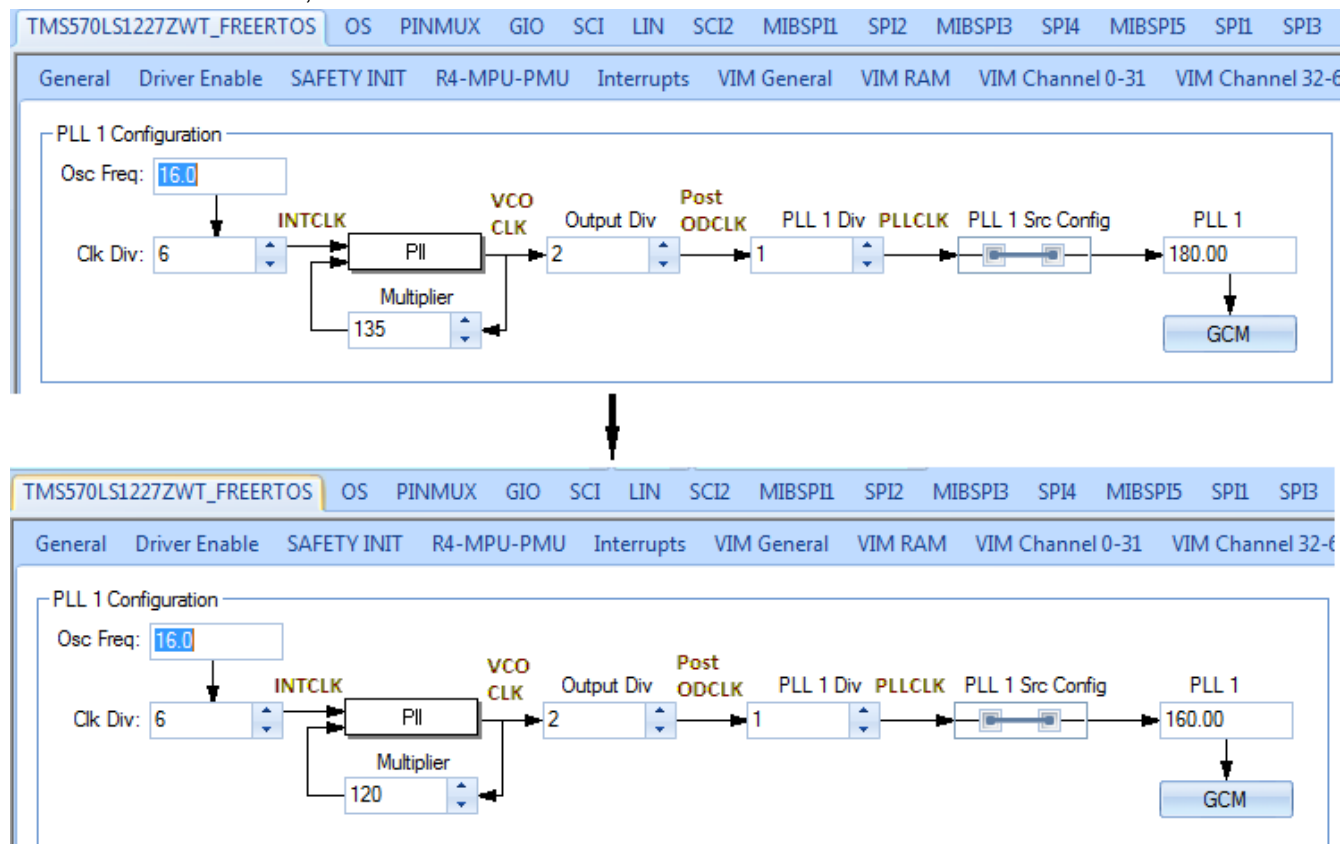

Figure 4-2. Configure PLL
- Configure the PLL and other clock settings as per the actual device requirements. In the example shown in Figure 4-2, the maximum CPU clock for the TMS570LS1227PGE is 160 MHz, whereas, with the TMS570LS1227ZWT, it is 180 MHz.